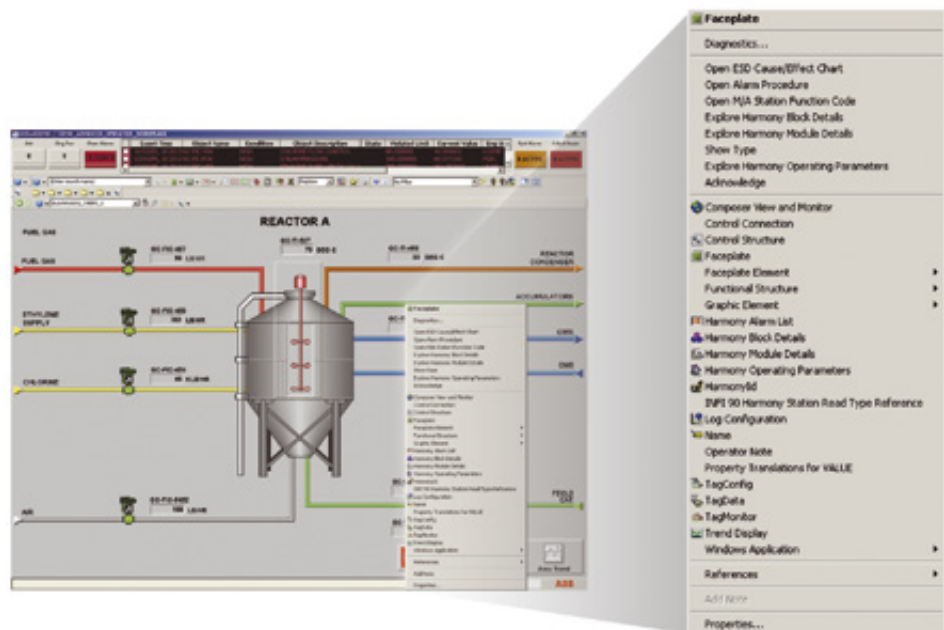

Figure 11. Process graphics with contextual navigation to all Harmony control information
**Harmony Standard Informational Views.** The Harmony tag importing process automatically creates control faceplates, trend displays, block details, module status, operating parameters, and other Harmony specific, standard informational aspect views (Figure 11).